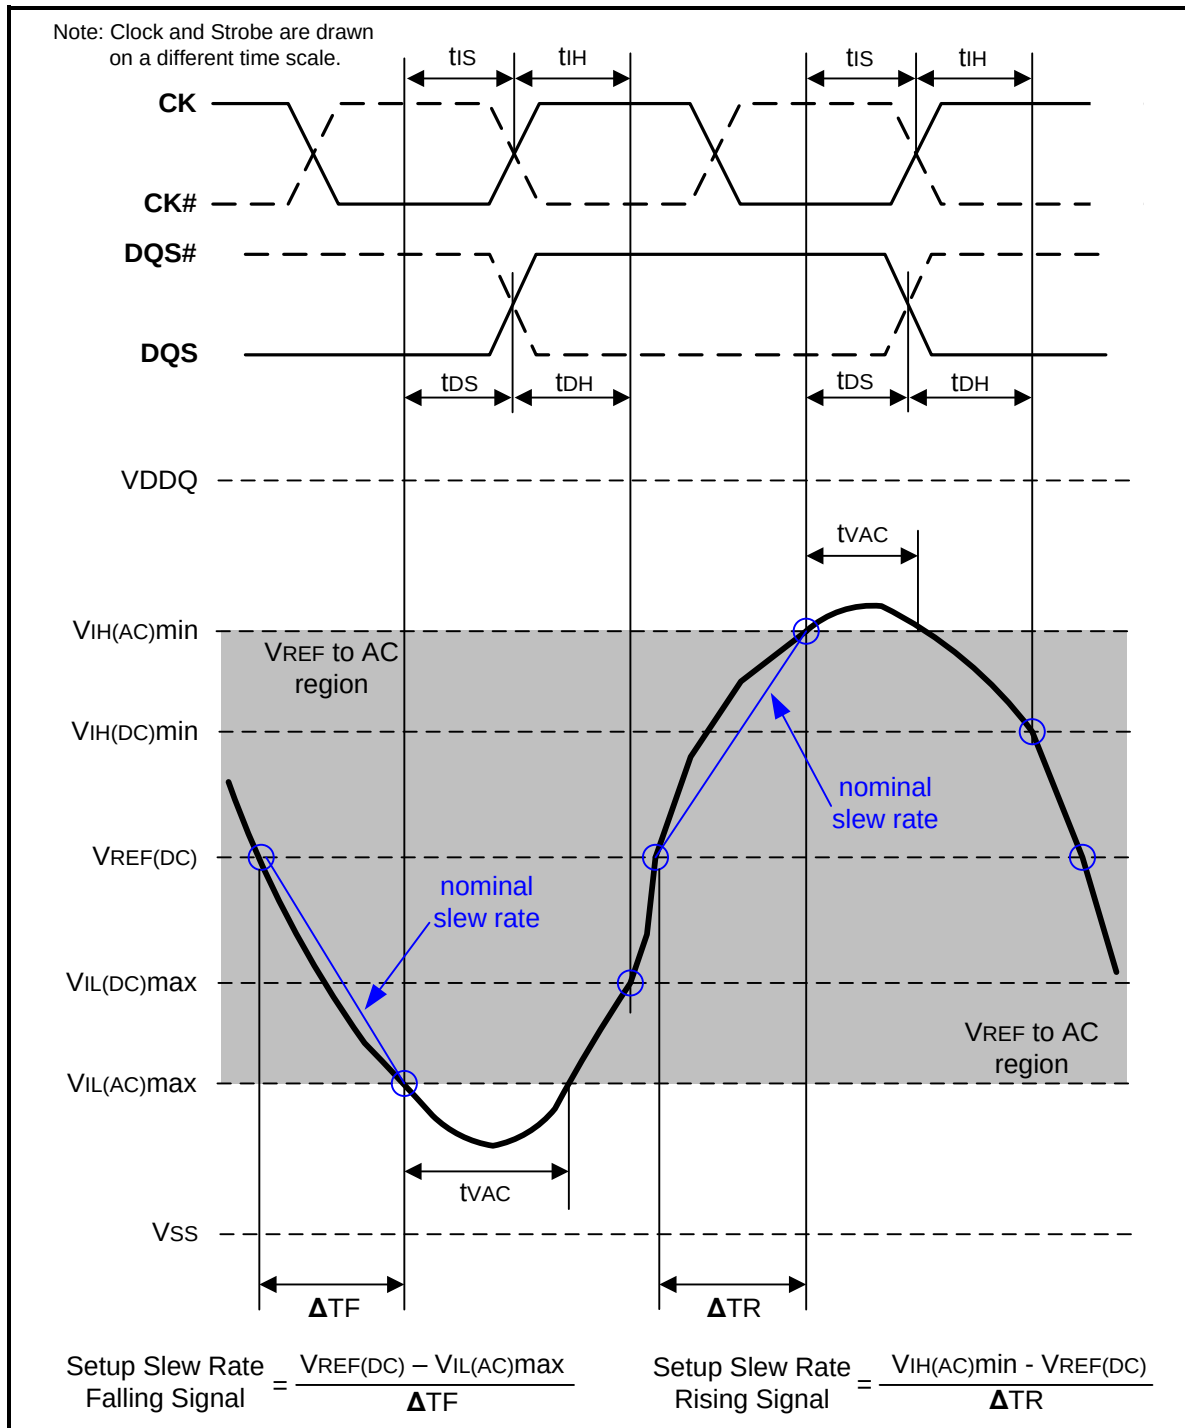
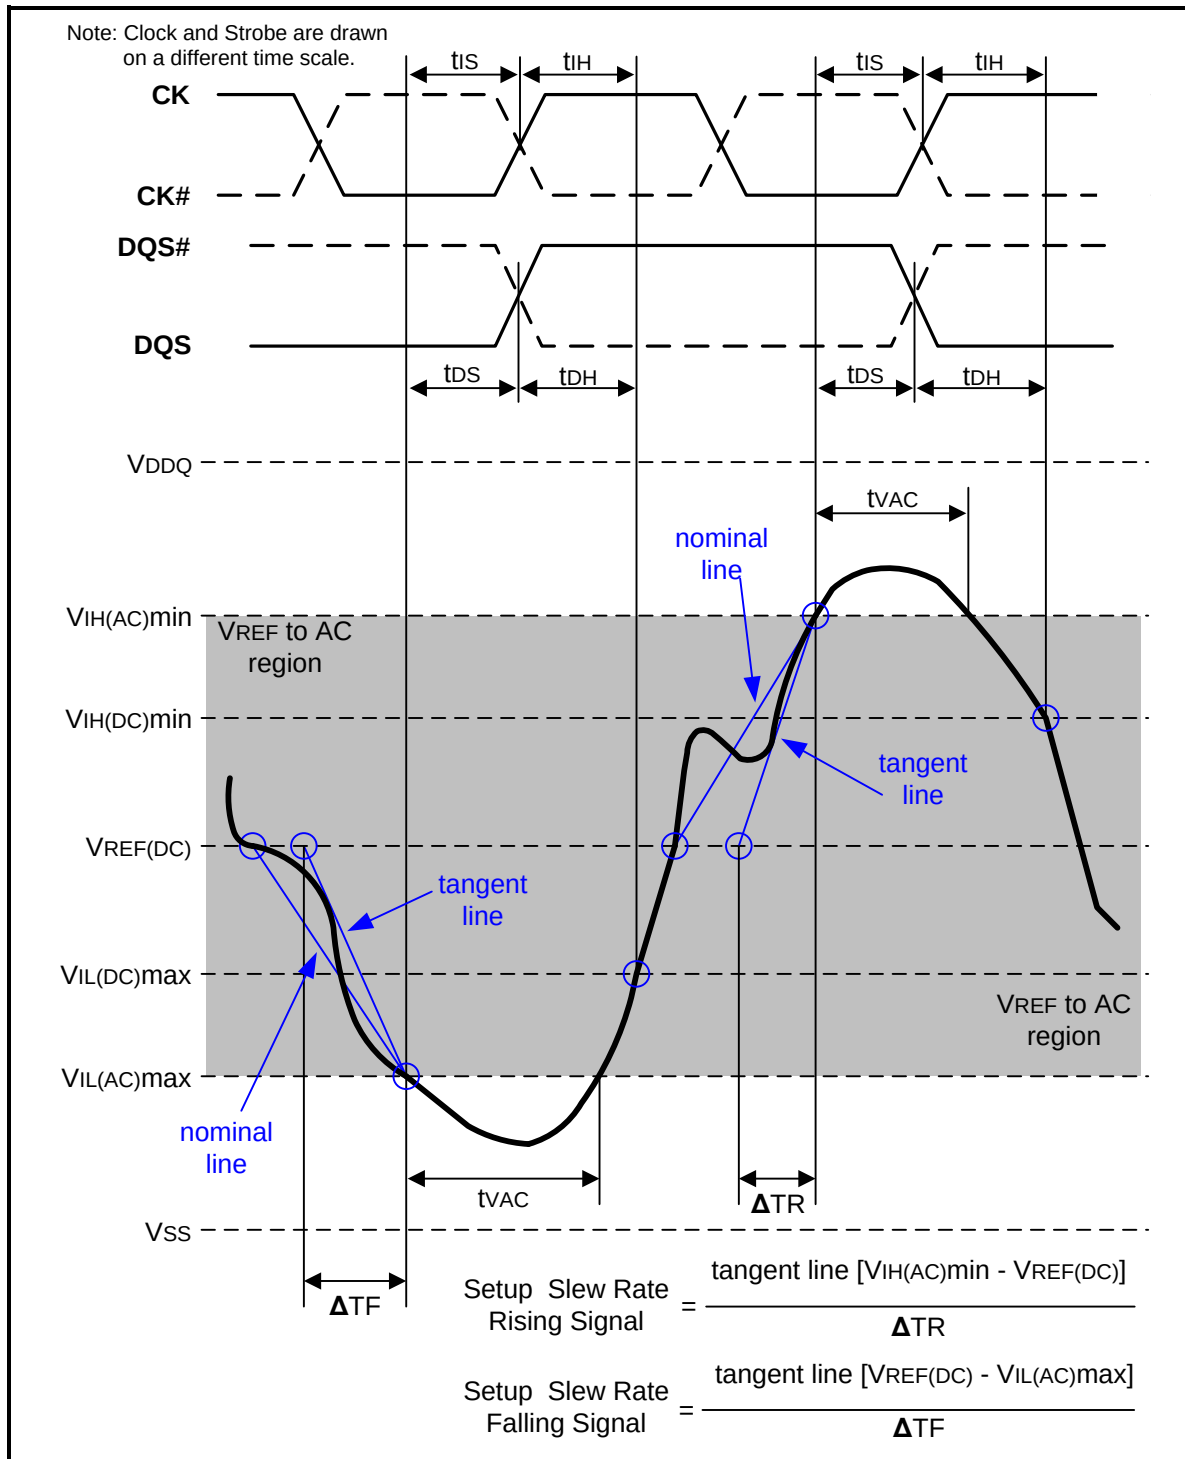

Figure 107 – Illustration of nominal slew rate and tvac for setup time tDS (for DQ with respect to strobe) and tIS (for ADD/CMD with respect to clock)
Figure 109 – Illustration of tangent line for setup time t_{DS} (for DQ with respect to strobe) and t_{IS} (for ADD/CMD with respect to clock)
Setup (t_{IS}) nominal slew rate for a rising signal is defined as the slew rate between the last crossing of $V_{REF}(\text{DC})$ and the first crossing of $V_{IH}(\text{AC})_{\text{min}}$. Setup (t_{IS}) nominal slew rate for a falling signal is defined as the slew rate between the last crossing of $V_{REF}(\text{DC})$ and the first crossing of $V_{IL}(\text{AC})_{\text{max}}$. If the actual signal is always earlier than the nominal slew rate line between shaded ' $V_{REF}(\text{DC})$ to AC region', use nominal slew rate for derating value (see Figure 107). If the actual signal is later than the nominal slew rate line anywhere between shaded ' $V_{REF}(\text{DC})$ to AC region', the slew rate of a tangent line to the actual signal from the AC level to $V_{REF}(\text{DC})$ level is used for derating value (see Figure 109).
Setup (tDS) nominal slew rate for a rising signal is defined as the slew rate between the last crossing of VREF(DC) and the first crossing of VIH(AC)min. Setup (tDS) nominal slew rate for a falling signal is defined as the slew rate between the last crossing of VREF(DC) and the first crossing of VIL(AC)max (see Figure 107). If the actual signal is always earlier than the nominal slew rate line between shaded 'VREF(DC) to AC region', use nominal slew rate for derating value. If the actual signal is later than the nominal slew rate line anywhere between shaded 'VREF(DC) to AC region', the slew rate of a tangent line to the actual signal from the AC level to VREF(DC) level is used for derating value (see Figure 109).